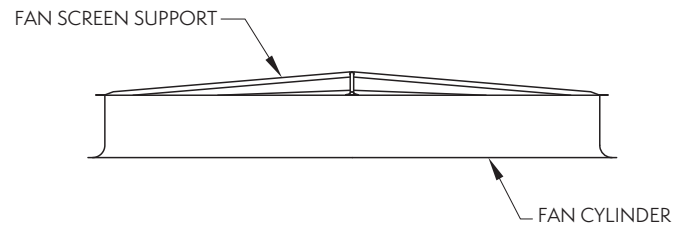

Figure 24 – Support Frame Installation
- Set the support frame across the top of the discharge cylinder (See **Figure 24**).